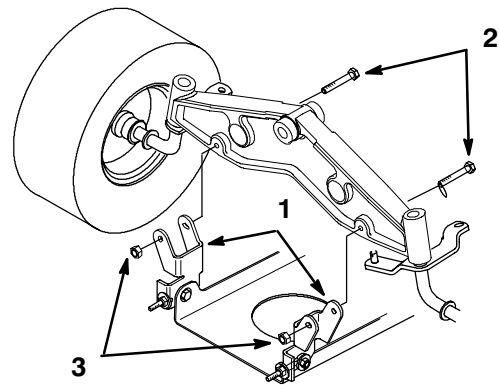

**Figure 39**
6. Unhook the blade control (PTO) cable Z end from the idler arm on the mower (Fig. 39).
7. Remove rubber wiper and jam nut from blade control (PTO) at mounting bracket. Slide the cable from the bracket and re-install jam nut for safekeeping (Fig. 39).